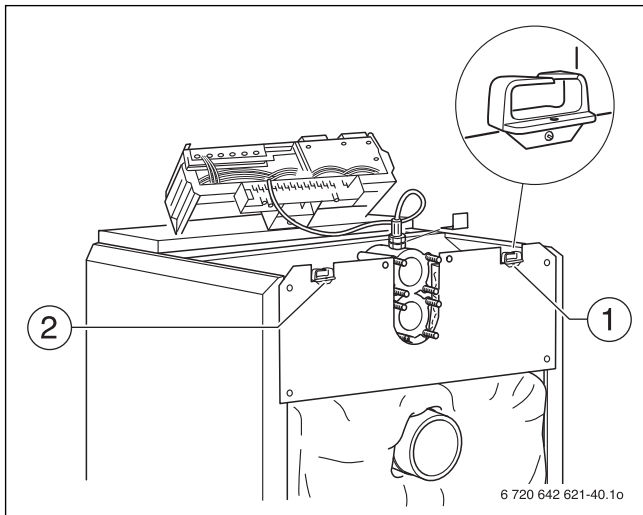

Fig. 49 Making the electrical connections
- ▶ Screw cable entry (Fig. 49, [1 and 2]) to the left and right of the rear boiler panel.